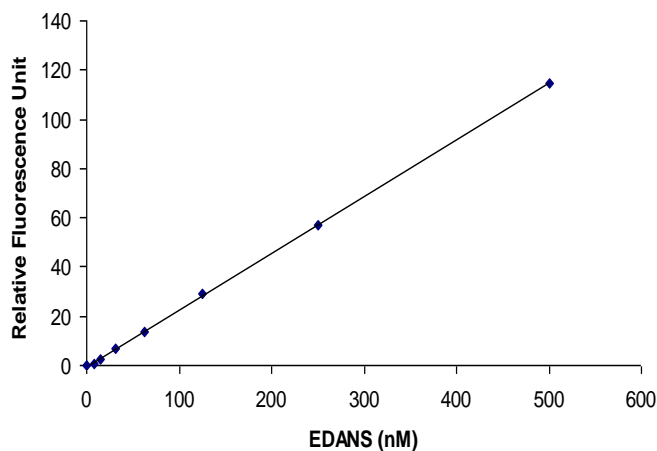

Figure 3. EDANS reference standard calibration curve.
- Plot EDANS fluorescence reference standard as RFU (relative fluorescent unit) versus concentration as **Figure 3**.